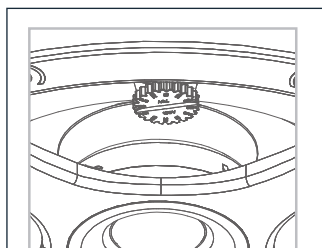

Figure 7:
- Set the transformer tap selector. Set the volume of each speaker until the system is completely installed (see Figure 7).